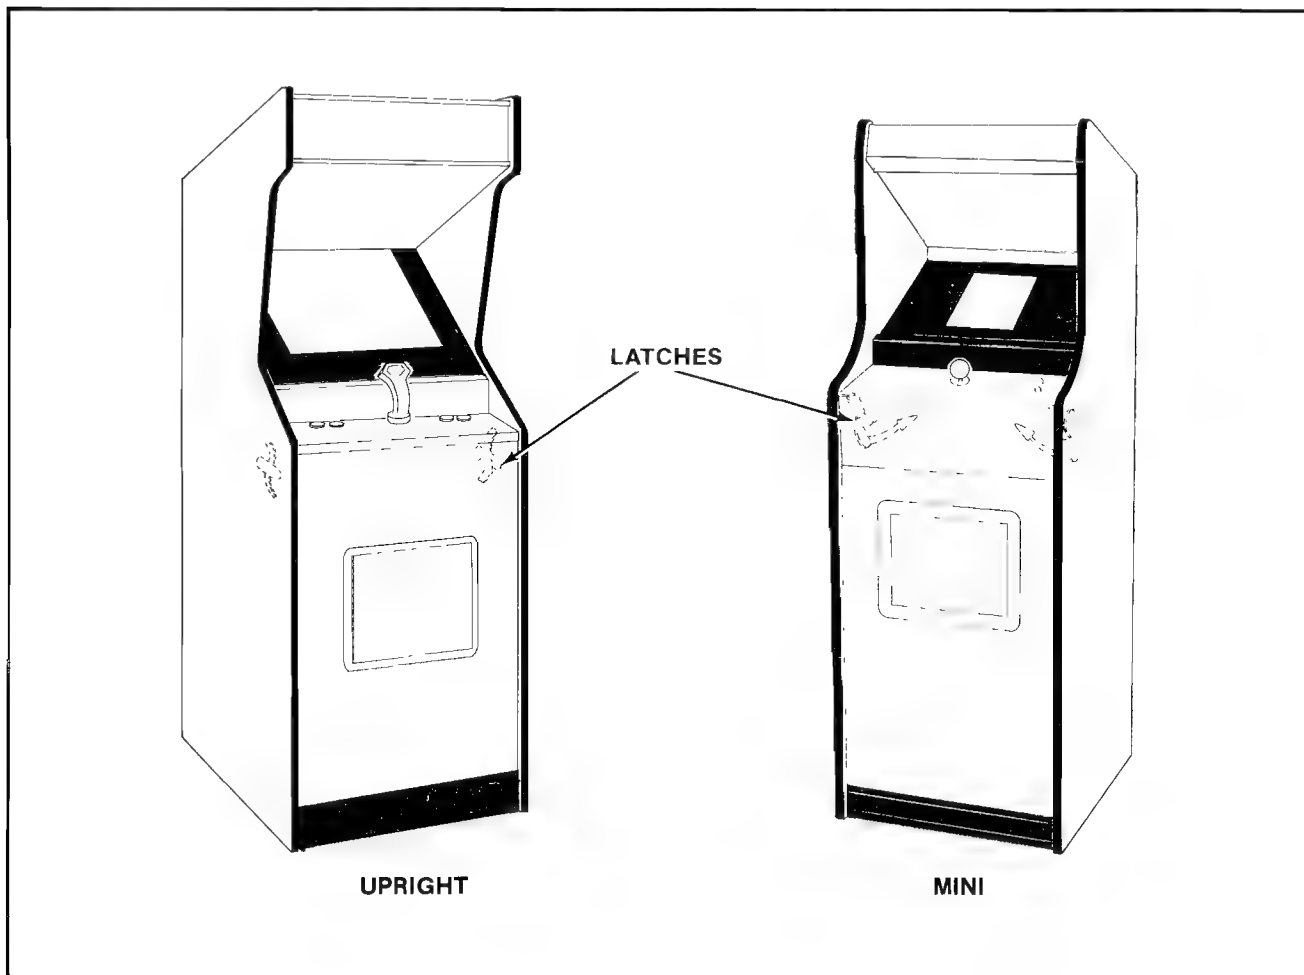

Figure 4-2 Opening the Control Panel — Upright & Mini
1. UPRIGHT MODEL: See Figure 4-2.
2. MINI MODEL: See Figure 4-2.